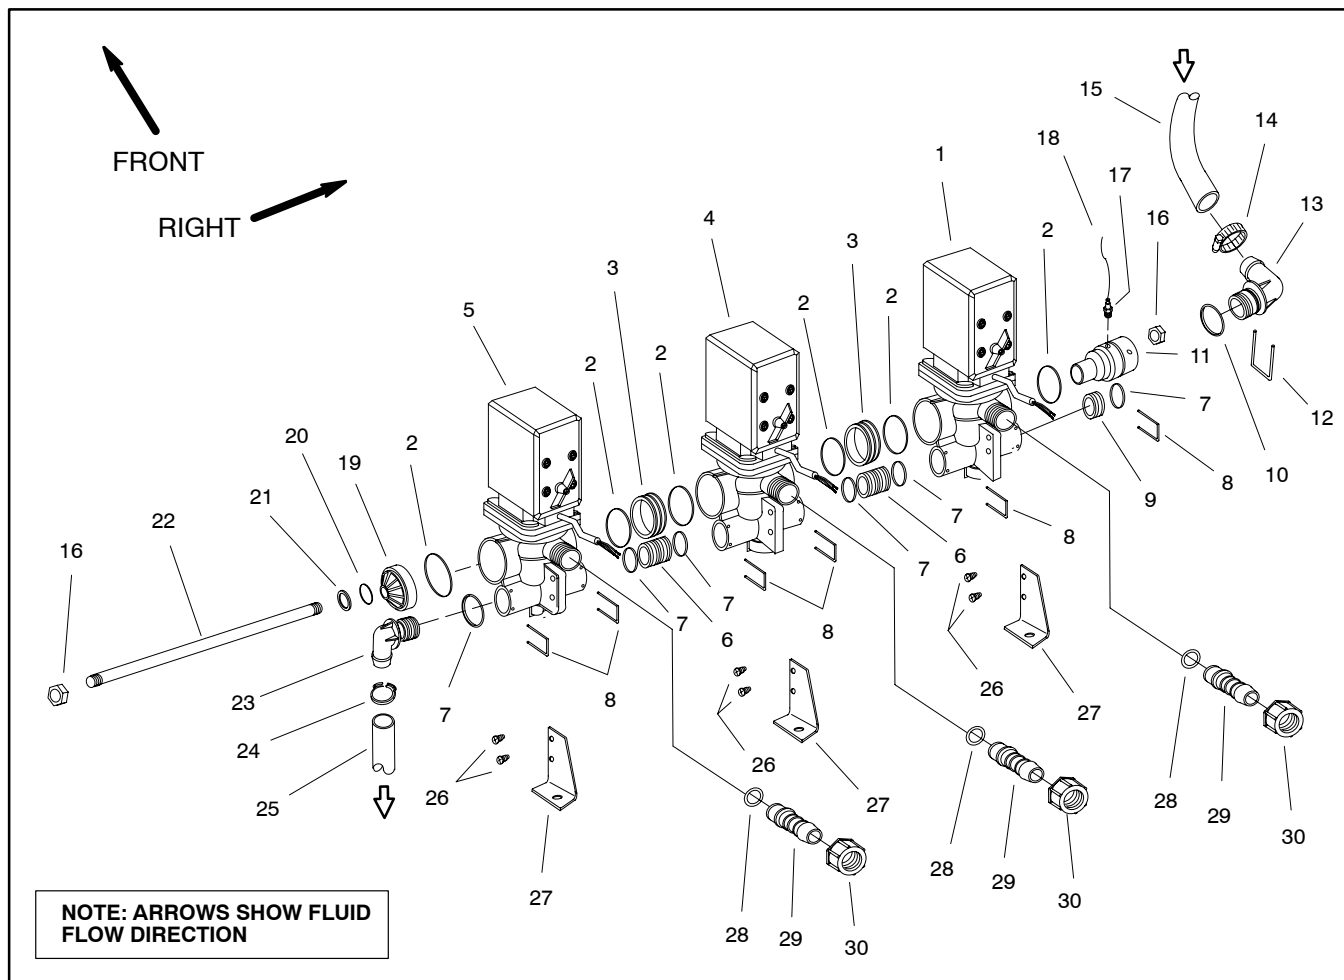

Figure 22
Disassembly (Fig. 22)
1. Separate boom valve motors as needed using Figures 22 and 23 as guides. Discard all removed o-rings and gaskets.
Assembly (Fig. 22)
1. Assemble boom valve motor assembly using Figures 22 and 23 as guides. Replace all removed o-rings.
2. Before installing rod (Item 22) into assembly, thread nut (item 16) fully onto rod end that has fewer threads. Make sure that o-ring (Item 20) is not damaged during installation over rod.